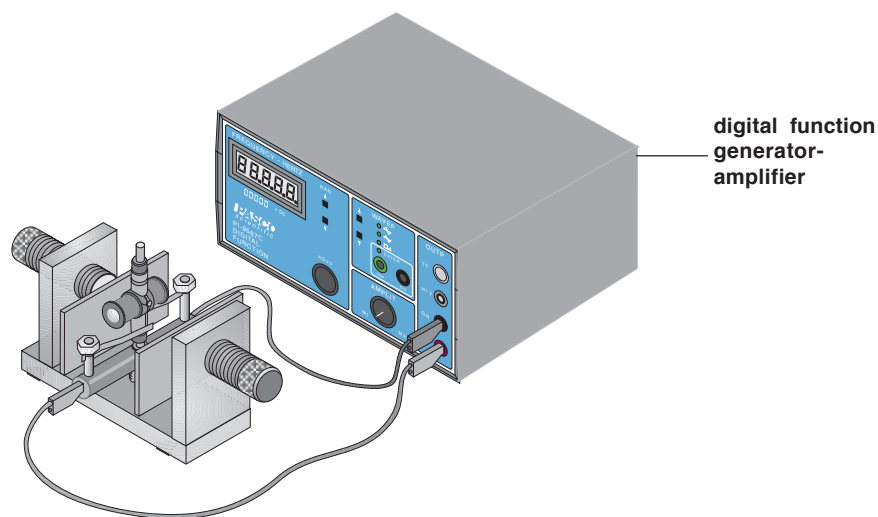

Figure 2. Experimental Set up
Connect the motor to the power source by one of these methods (See Figure 2):
- ② Hold the armature in a position like that shown in Figure 2. Hold the ceramic magnet near the ends of the armature in order to establish which end is a north pole and which is a south pole. The painted face of the magnet is its North Pole (north-seeking pole). [You can verify this by hanging the magnet from a thread and observing that the painted face points toward the North (toward the earth's north magnetic pole, located in northern Canada).] If both poles of the ceramic magnet attract the armature, the pole with the stronger attraction will be the opposite pole. Verify that the result of the tests agree with your results from step 3. Determine the polarity of the Variable Gap Magnet in the same way.
- ③ Now set the power source to furnish to the brushes with alternating current with a sinusoidal